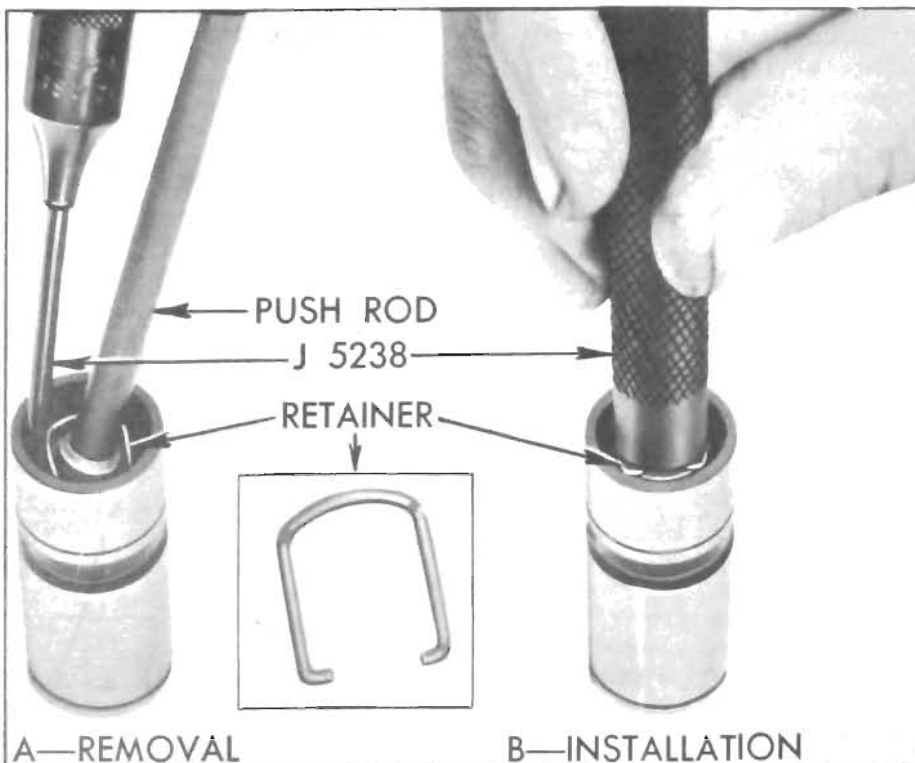

Figure 2-22—Removing and Installing Plunger Retainer
the plunger retainer from the lifter body, using Retainer Remover J-5238. See Figure 2-22, View A. Remove push rod seat and plunger from lifter body.
17. Rinse push rod seat and plunger retainer, place these parts in end of body and depress with handle of Remover J-5238 until retainer engages groove in body. See Figure 2-22, View B.